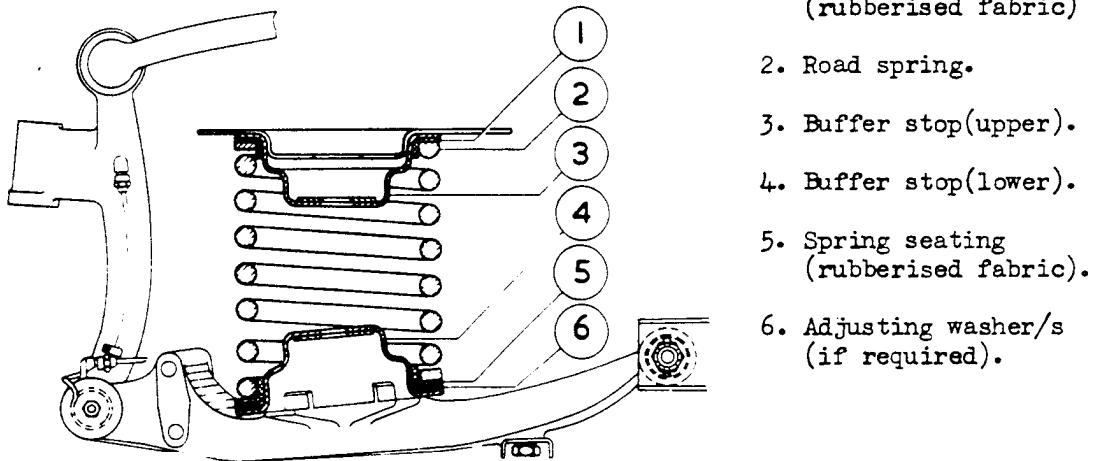

FIG. 4. FRONT SUSPENSION SPRING IN POSITION - LATER MODEL CARS.
bolt through the hole provided in the lower buffer stop. (6 Fig.3 or 4 Fig.4). Leave the spring in position until the following operation (vii) has been carried out.
NOTE: On later cars, commencing at Chassis Nos. B-466-EY & B-126-LEY on which "Progressive Bump Stops" have been incorporated, the buffer housing, 4 Fig.3 and the rubber buffer (5) have been eliminated (See Fig.4).